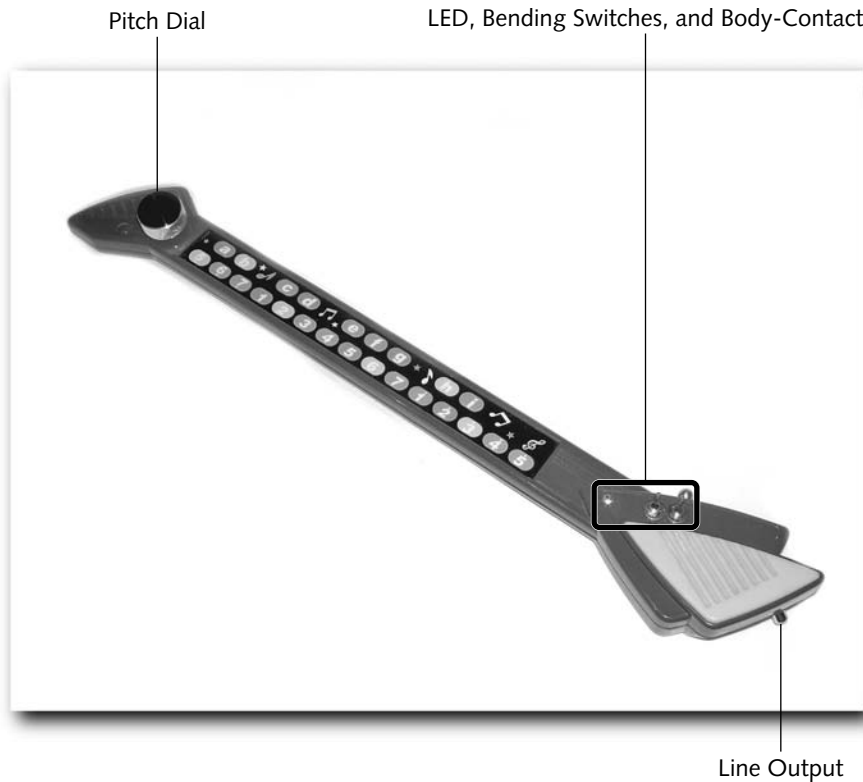

FIGURE 28-1: Circuit-Bent Cool Keys Music Stick
**W**ho needs a mechanical piano keyboard to play the good ol' equal-tempered scale? No one, or so thought Diversified Specialists Inc. To stand by this conviction, around 1993 DSI introduced "Cool Keys," a stick-like guitar-shaped instrument capable of playing mellow bell-like tones over a span of two octaves by means of pressing a long, flat membrane colorfully marked with the notes of the scale (see Figure 28-1).
You'll put your switches on the lower body of the case, along with an LED. Exactly where you place the switches is up to you. You'll be able to use a full-size pot if you mount it in the "tuning head" above the neck. My usual design goes something like what you see in Figure 28-1.
If you're using the control array depicted (refer to Figure 28-1), there should be no real concerns. The LED is, in my example, simply mounted in a snug hole.